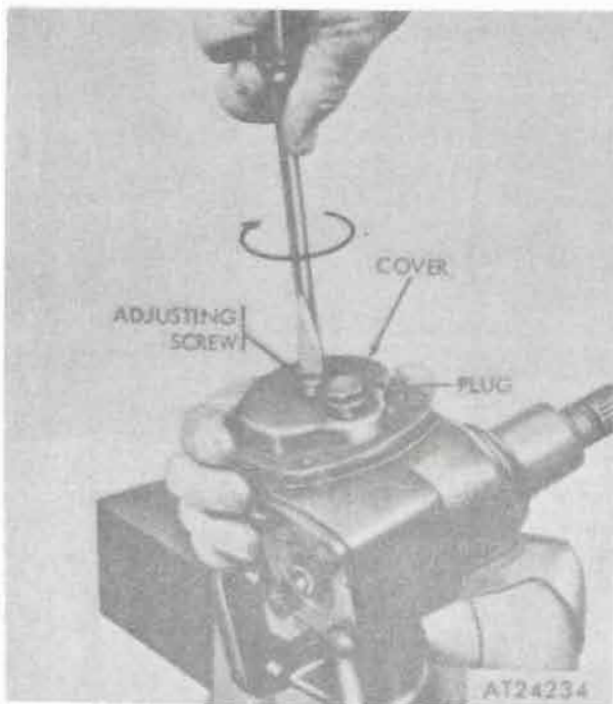
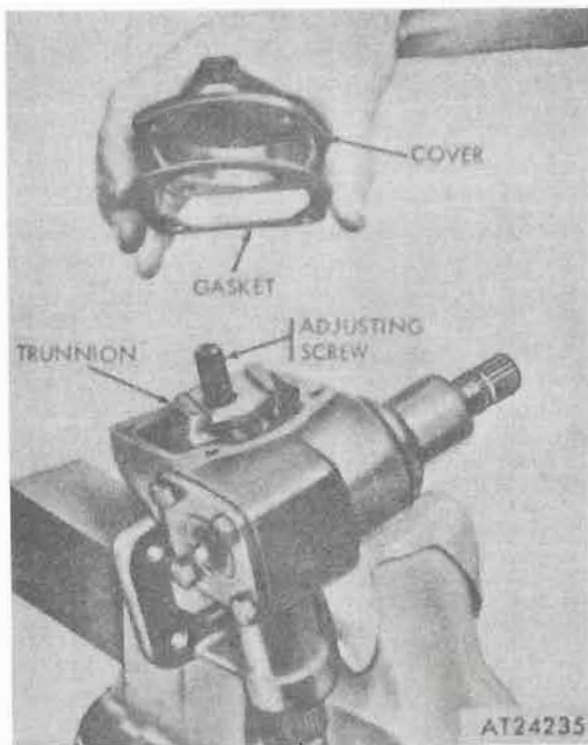

Figure 16-7. Removing cover assembly.
Figure 16-8. Cover assembly and gasket.
e. Turn adjusting screw down (clockwise) to raise cover assembly off housing (fig. 16-7).
f. Lift off cover assembly and gasket (fig. 16-8). Remove plug from cover (fig. 16-7).
g. Slide adjusting screw and plate assembly out of trunnion of sector shaft (fig. 16-8).